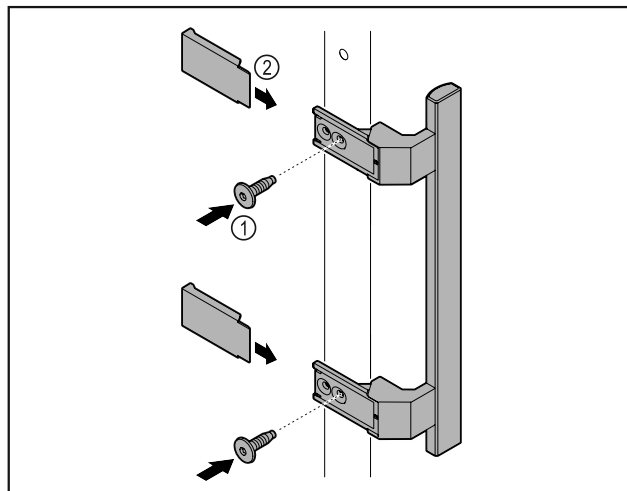

Fig. 8
- ▶ Attach handle from accessory kit to the door using the screws Fig. 8 (1) supplied.
- ▶ Put on cover Fig. 8 (2).